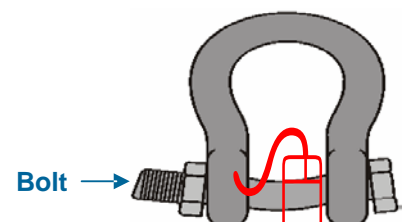

Fig. 16
- ⌚ Never replace a shackle pin with ordinary bolt. The strength of an ordinary bolt is less than that of a shackle pin. (see Fig.16)